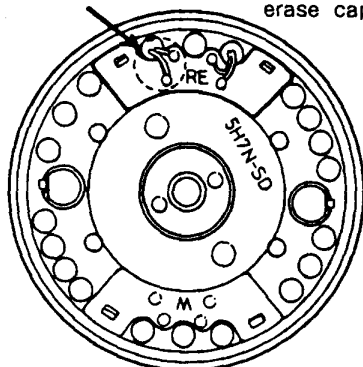

Fig. 5-11-4
- 2) In case the RE (ROTARY ERASE) HEAD is attached to the upper drum (UPPER CYLINDER), remove the lead wires soldered from the P.C. board (see Fig. 5-11-4.).
- 2) The code name ① of the drum is printed on the video head side of the upper drum ⑤ SP CH-1 (channel A, plus azimuth). The code name ① is set with in the rotary transformer terminal round hole side ② position of lower drum (LOWER CYLINDER), so that the two screw holes ③ of the upper drum are aligned with the two screw holes ④ of the flywheel. (Refer to 3. Recognizing the SP CH-1 Head side).
- 3) In case the RE (ROTARY ERASE) HEAD is attached to the upper drum, pass the lead wires through the lead wire hole. (See Fig.5-11-4.)
- 4) While keeping the upper drum ⑤ parallel to the lower drum (LOWER CYLINDER) ⑧, insert it completely into the flywheel.
- 5) Temporarily tighten the two screws ⑦ alternately a little at a time, then tighten them to a torque of 6kg-cm using a torque driver (VHJ-0014) and a 3mm bit (VHJ-0045).
- 6) In case the RE head is attached to the upper drum ⑤, solder the lead wires to the P.C. board. Solder the red lead wire to the R terminal, and the yellow lead wire to the Y terminal.